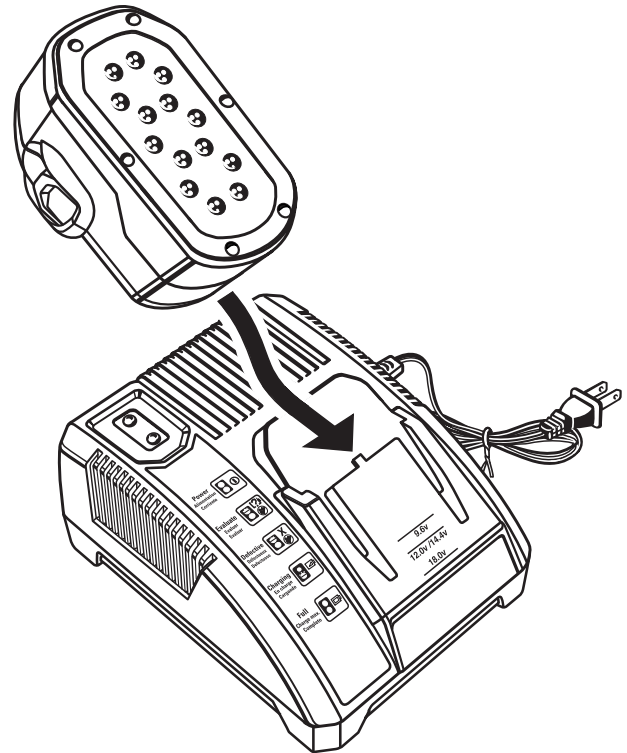

Fig. 5
- Attach the battery pack to the charger by aligning the raised ribs on the battery pack with the grooves in the charger, then slide the battery pack onto the charger. See *Figure 5.*